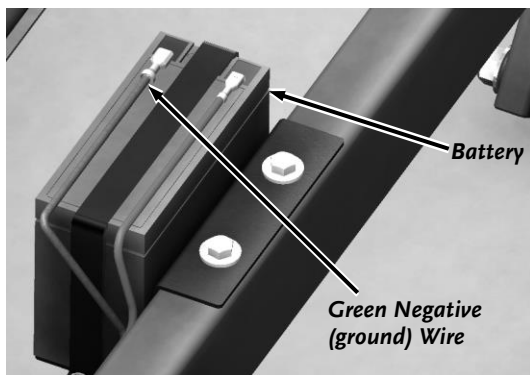

Figure 9
1. Push the green negative Wire Connector fully onto the negative terminal of the Battery (**Figure 9**).